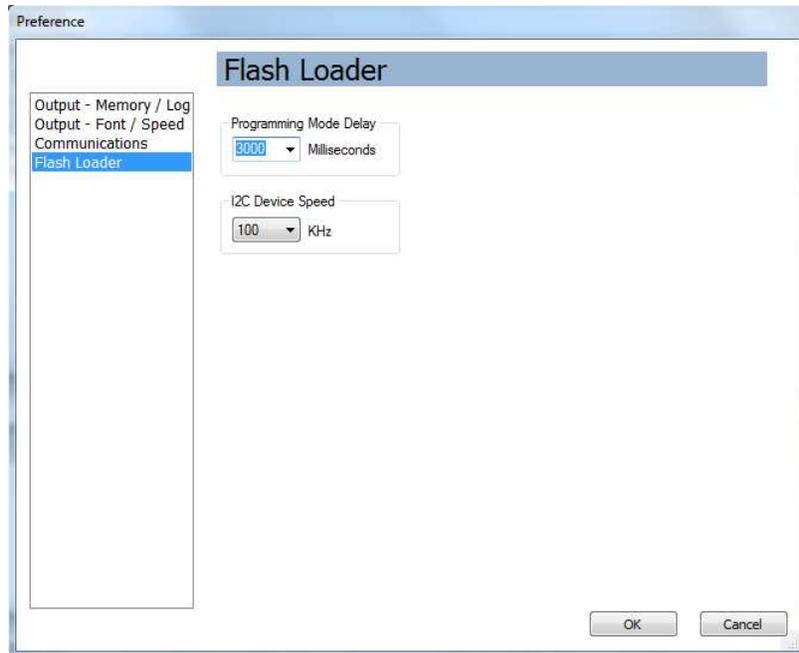

Figure 3. Selecting Flash Loader Options GUI
2. At the end of the dialog box, select 100 kHz as the I²C speed (see Figure 3).